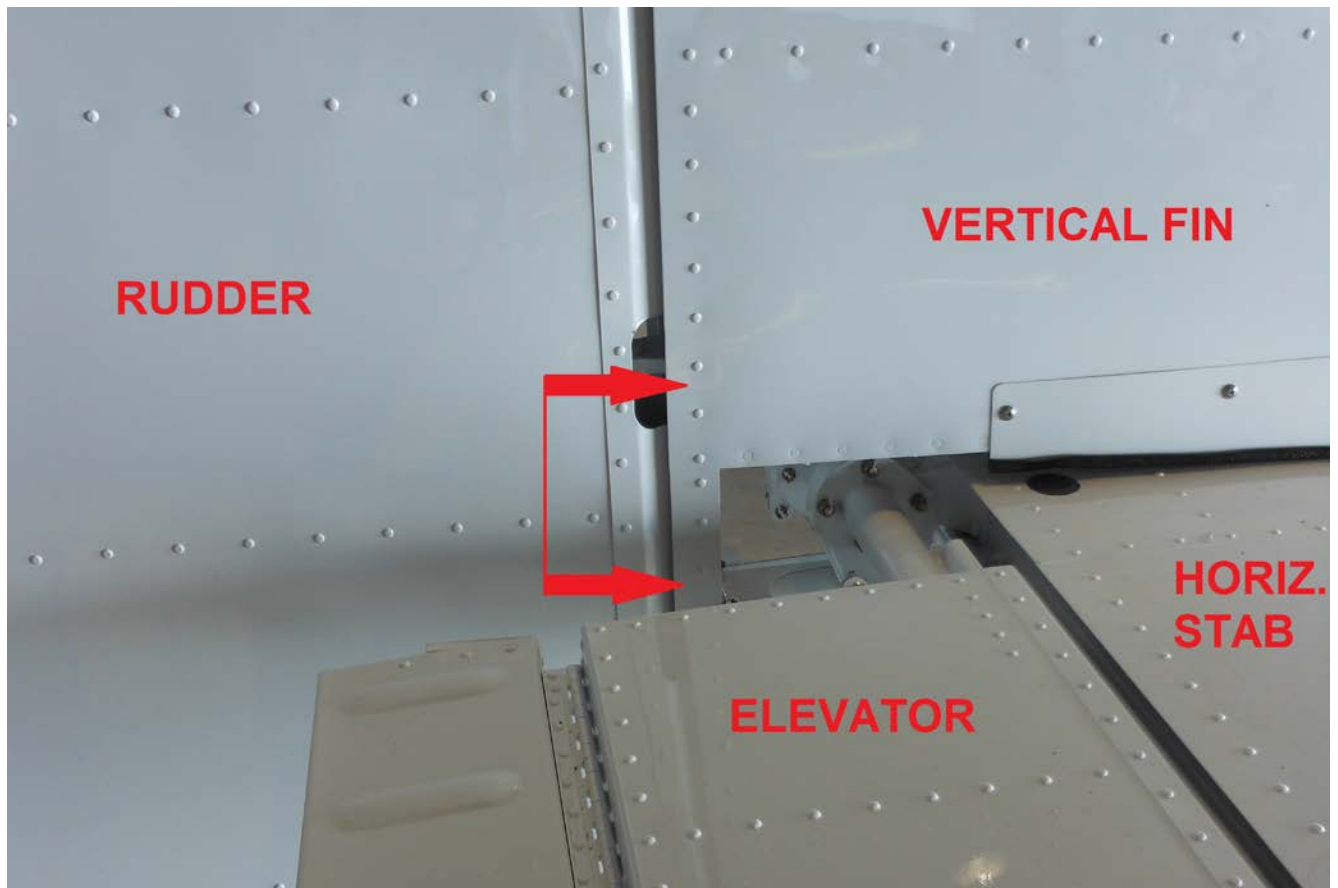

Figure 55-2: Vertical Fin Spar Inspection Area
3. If no motion is detected, visually inspect the vertical fin spar immediately below the second hinge from the bottom for cracks in the web or doubler angles (see Figure 55-2). If cracks are detected, proceed immediately to the periodic inspection, page 5.